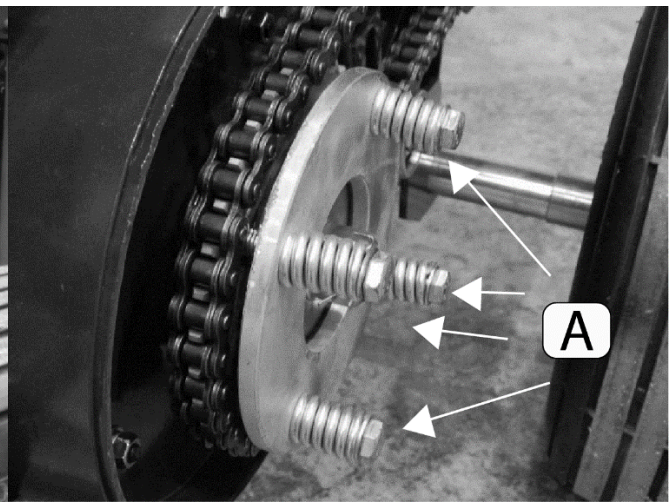

Figure 42 Slip clutch tension springs
The baler's pickup comes equipped with a slip clutch protection mechanism. When pickup components experience excessive resistance, the clutch will slip to prevent damage. The clutch's tension springs (Figure 42, A) apply pressure to resist slipping and must be tensioned properly. They are normally set at the correct tension at the factory, with spring length at approximately **one (1) inch (27mm)**. They should be adjusted to this length if the clutch begins to slip during normal use. However, each time the clutch slips, the friction discs inside the clutch experience wear. The discs should be replaced if worn.